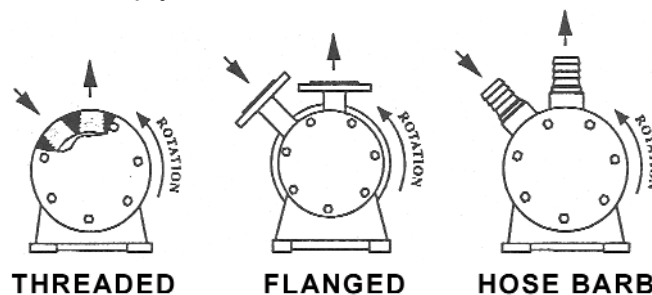

Figure 1: Direction and Port Location
4) When the pump is ready to run, bump start the motor to check rotation (*see Figure 1*) To change the suction and discharge ports, simply reverse motor rotation.